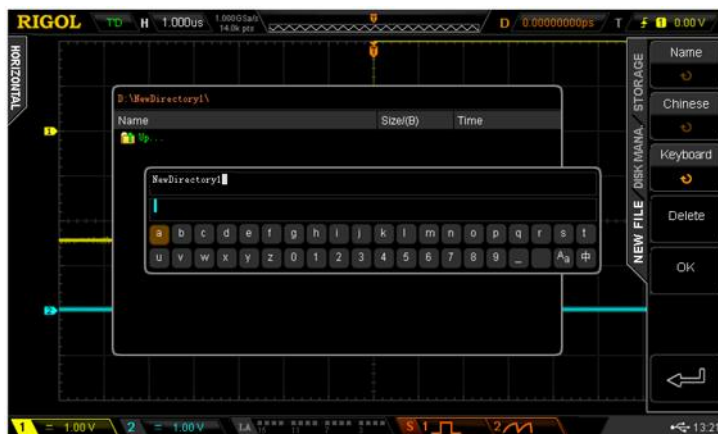

Figure 14-5 External Disk (To Create a New File)
- 4) After the storage position is selected, press **New File** to turn on the interface as shown in Figure 14-5. Refer to the descriptions in **"To Create a New File or Folder"** to create a new file.